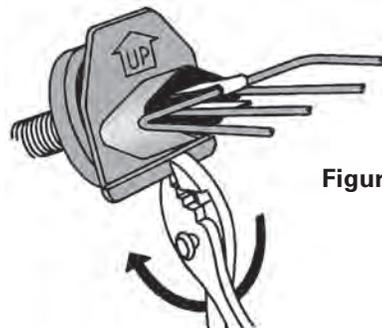

Figure 4
- 7b. If the bottom of the plastic plate is bumping into the bottom of the tank surface and preventing the de-icer from laying flush against the drain hole-snap the plastic strip off along the groove as shown in Figure 4. If breaking this strip was necessary, then you must also take a knife and cut the overlapping piece of gasket.